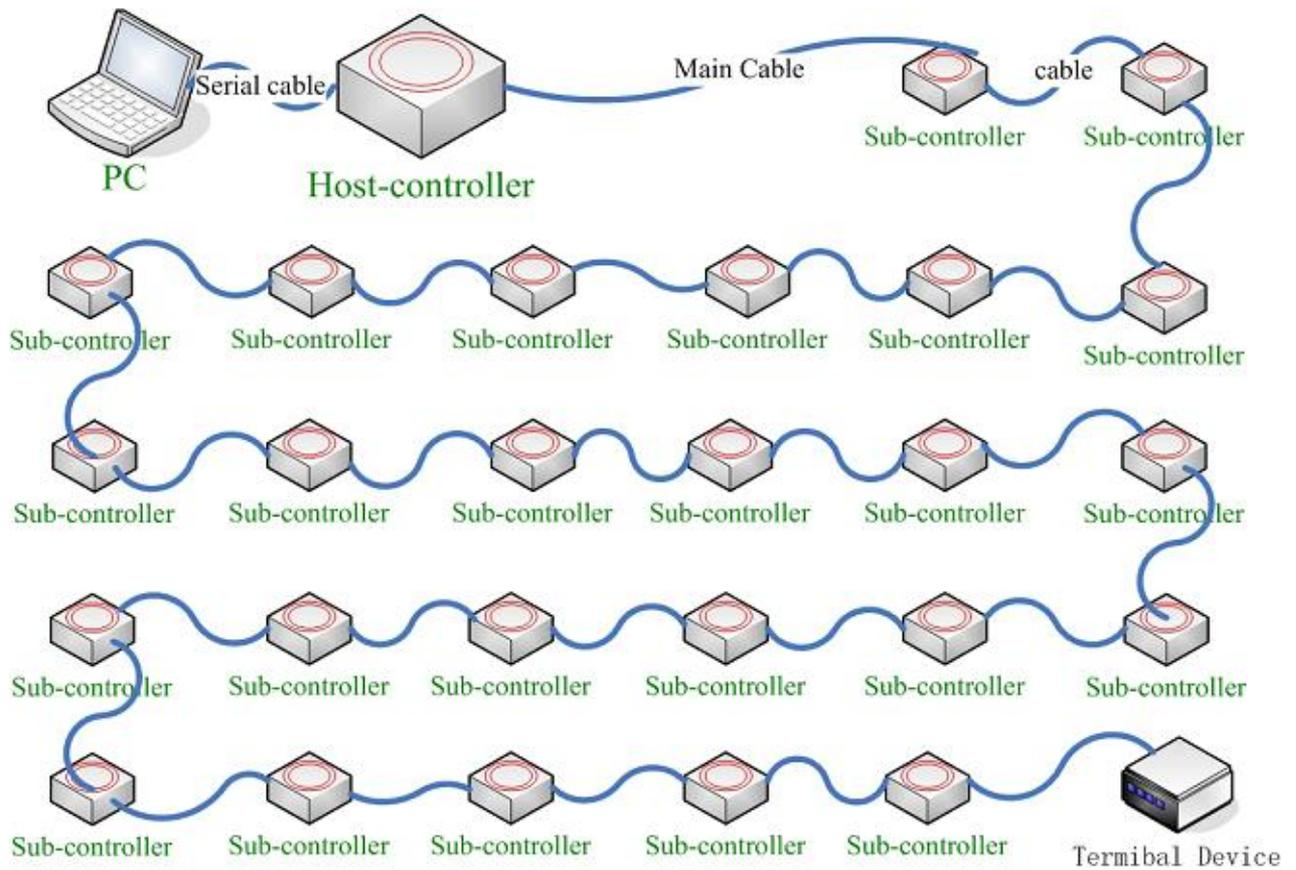
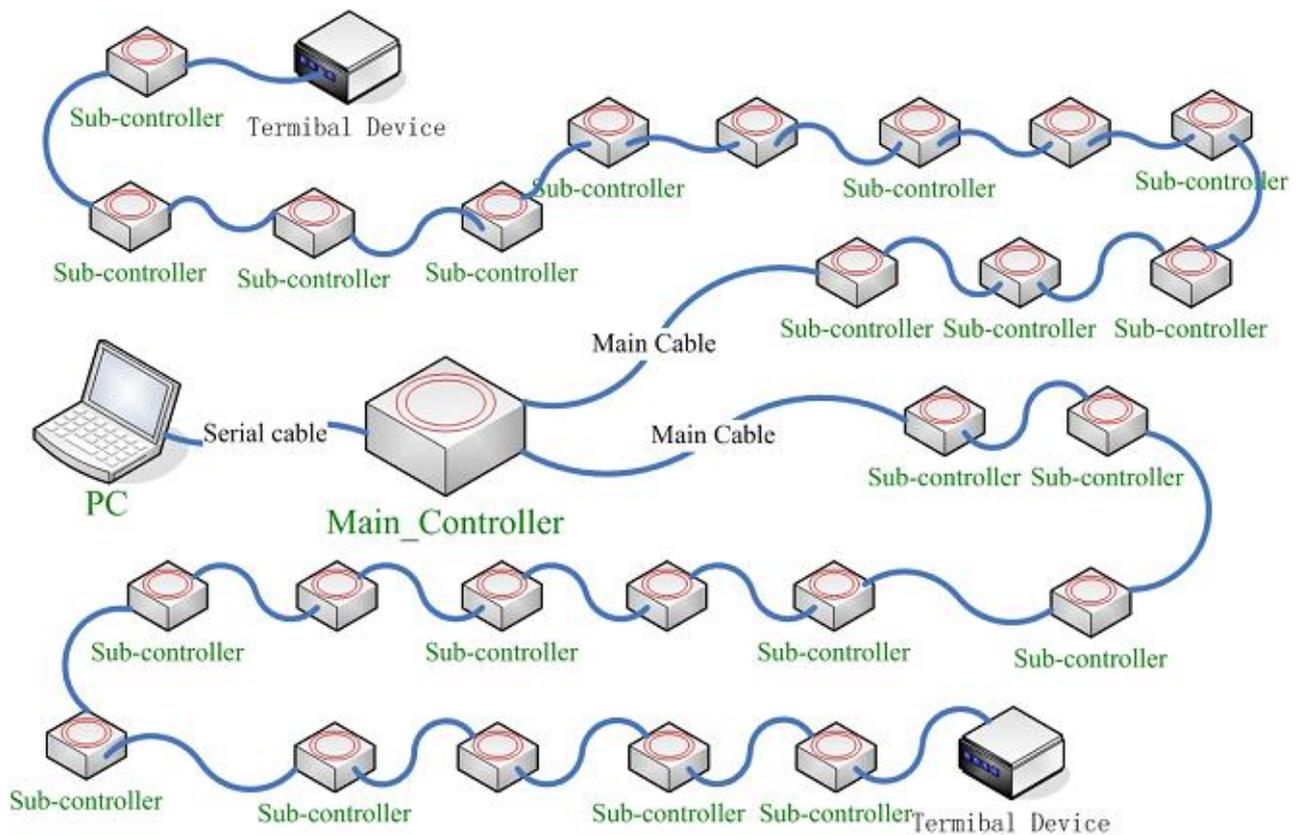

fig 9 The terminal control Method
fig 10 The intermediate control Method
1. The terminal control Method : Show in fig 9.This is the general connect method.
Refer to fig 9 or fig 10 to connect the system.